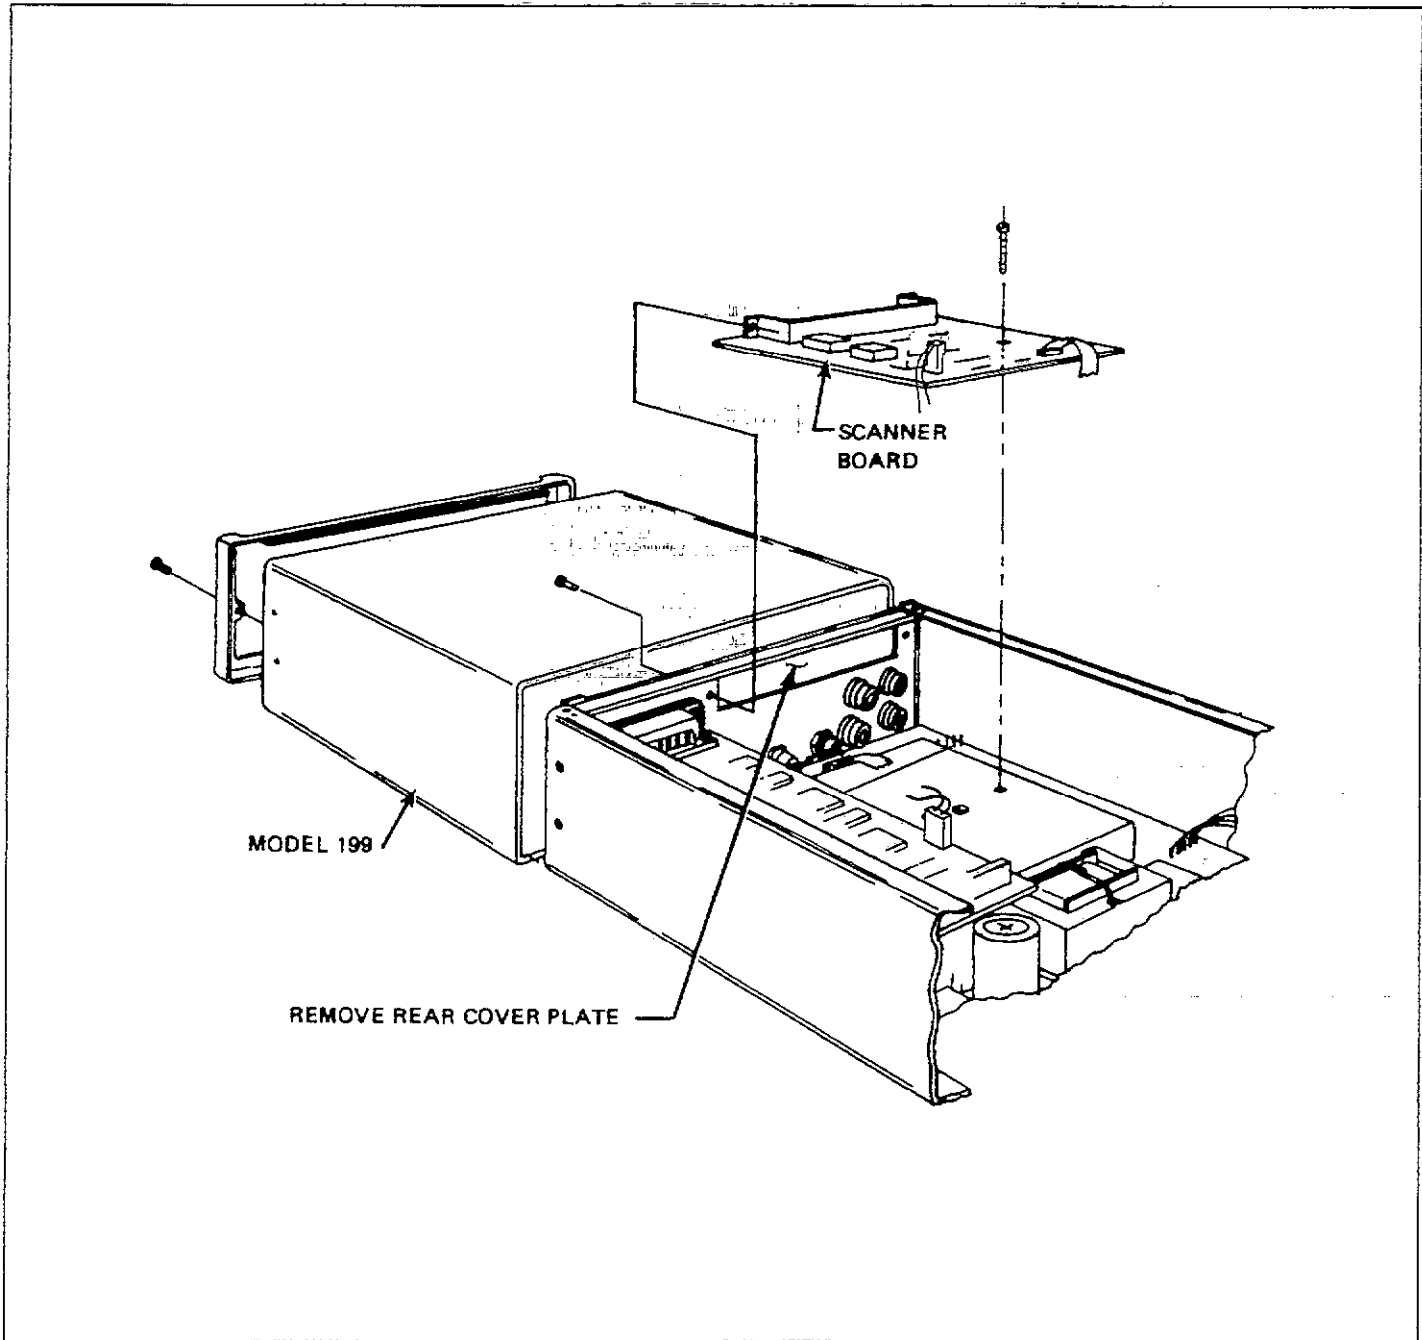
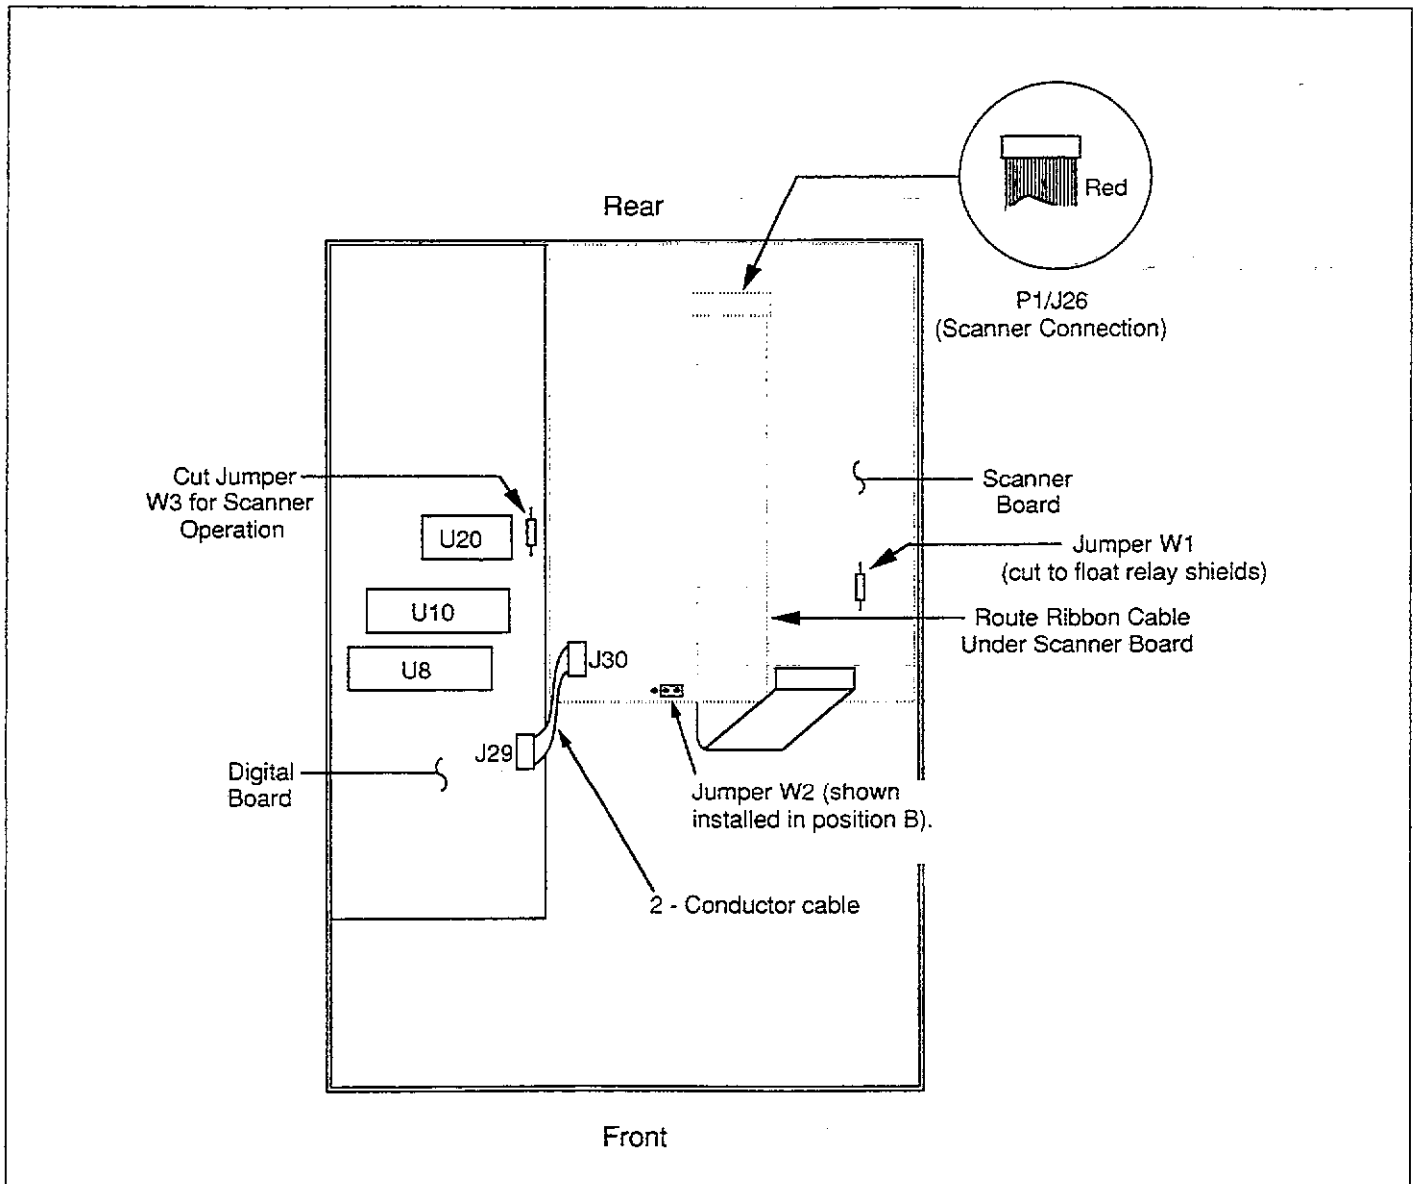

Figure 6-12. Scanner Installation
Figure 6-13. Scanner Connector Location
Using Figure 6-12 and 6-13, install the Model 1992 Scanner as discussed below:
5. Orient the scanner card above its final location (see Figure 6-12), and plug the ribbon cable (P1) into the mating receptacle (J26) on the analog board (see Figure 6-13). The red mark on the ribbon cable must be oriented on the right as viewed from the front of the unit.
11. Using a pair of diagonal cutters, cut jumper W3 on the digital board (see Figure 6-13 for location). This step is necessary to enable scanner card operation.
to connect the relay shields to analog ground (see Figure 6-13). If desired, this jumper can be cut to float the shields, or to connect another potential (for example, for guarding).